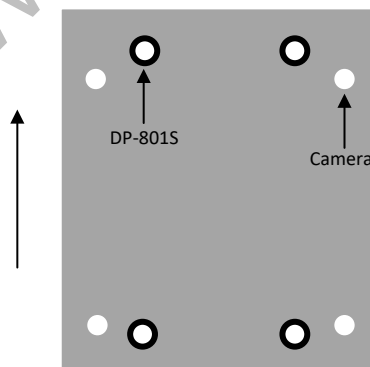

Figure 1. FCB EW/ER-9500 Bracket Orientation
- Attach the FCB EW/ER-9500 Bracket to the Sony block through the camera holes using the supplied black M2 screws. Note the bracket orientation as shown in Figure 1 below.